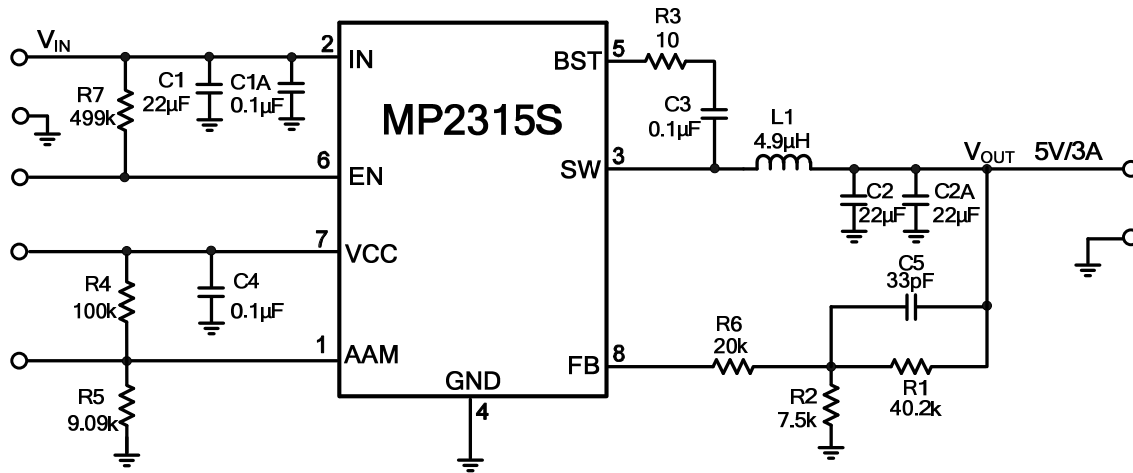

Figure 9: $V_{IN} = 6.5V - 24V$, $V_{OUT} = 5V$, $I_{OUT} = 3A$
- 9) The recommended layout is based on Figure 9 on page 15.
The detailed application schematic is shown in Figure 9. The typical performance and circuit waveforms are shown in the Typical Performance Characteristics section. For more device applications, please refer to the related evaluation board datasheets.